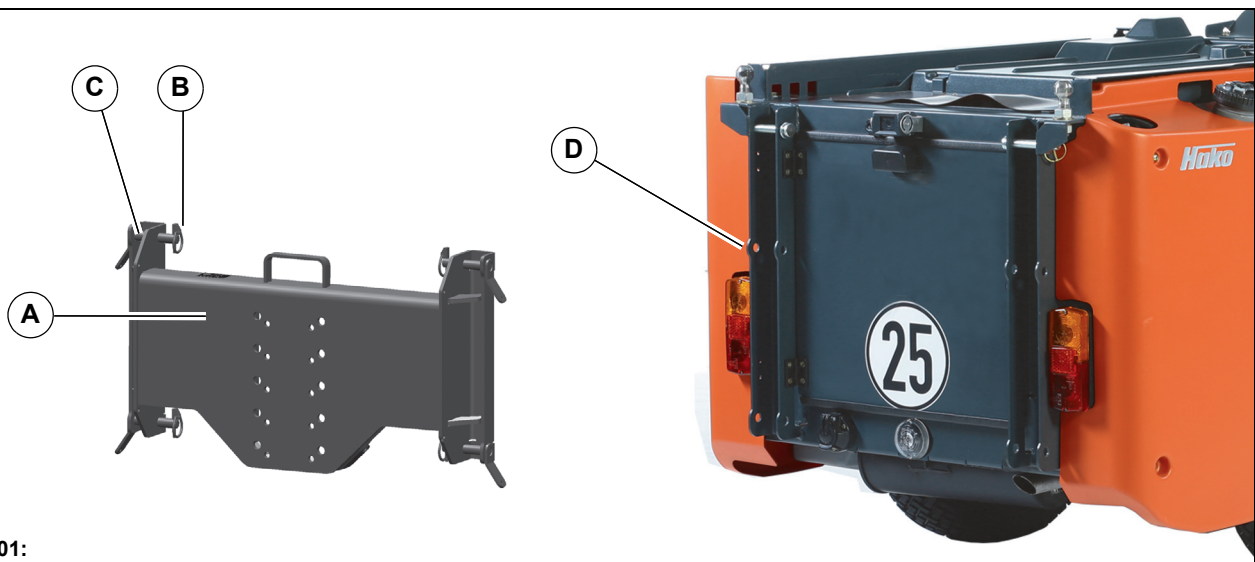

Fig. 201:
The trailer hitch plate **Fig. 201-A** is mounted without tools to the tail of the vehicle.
1. Remove the locking pins **Fig. 201-B** of the four bolts **Fig. 201-C** of the trailer hitch plate and withdraw the bolts.
3. Secure the trailer hitch plate with bolts and locking pins to the holding points **Fig. 201-D** of the vehicle tail.